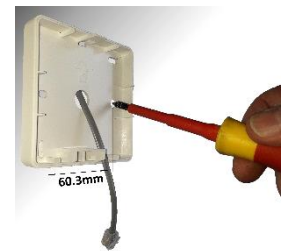

Fig 8
- Step 2** Feed one end of the RJ control cable through the switch box, feed and secure the RJ control cable through the back case and secure back case to switch box using 2 x M3.5 screws (not supplied) (see Fig 8).